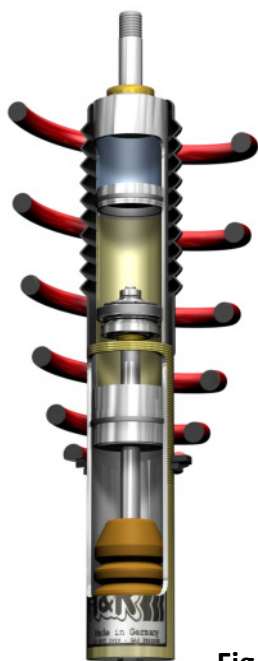

Fig. 1: Bump rubber FA
- The **bump rubber** is fitted within the coil over rear strut. Do not reuse the OE rubber. **(Fig. 1)**